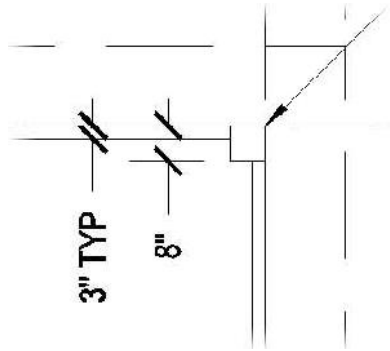

FIGURE 12.57: The handrail dimension after adding the TYP text
9. Add another dimension measuring the width of the horizontal handrail, and add the text **TYP** after the dimension text, as shown in Figure 12.57.